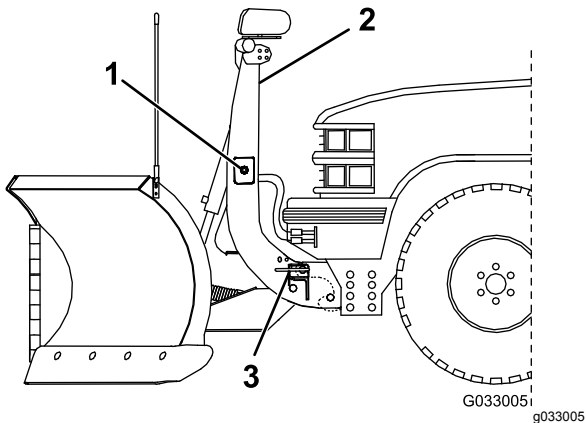

Figure 34
5. Push the SmartHitch2 switch on the side of the coupler tower up to release the pins, then down to lower the tower completely (Figure 34).